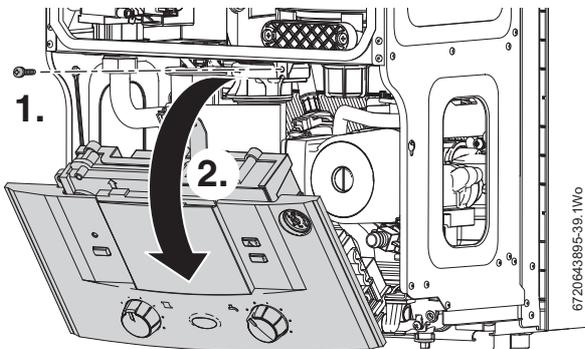

Fig. 49 Moving control panel into the service position
1. Refer to figure 49 and remove the screw securing the control panel.
- ▶ Refer to figure 49 and remove the screw securing the control panel.